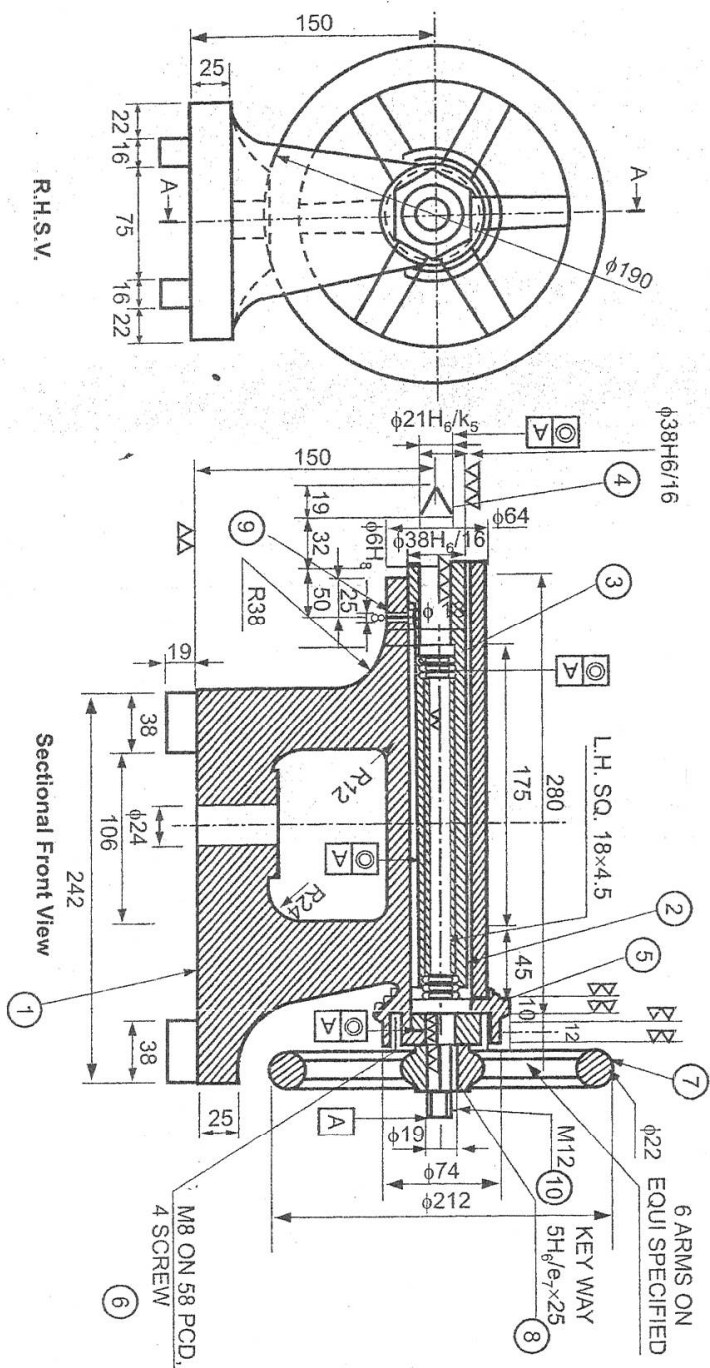

Fig. 4.a. Assembly of Tailstock
- a) Fig.4.a shows the assembly of Tail-stock. Draw the following details mentioning appropriate dimensional tolerance, tolerance grade etc. on part if required.
- b) Refer Fig.4.b. which shows assembly of drill jig. Draw the following details showing appropriate dimensional and geometrical tolerances etc. if required.
Q. 4.b. Fig. 4.b.